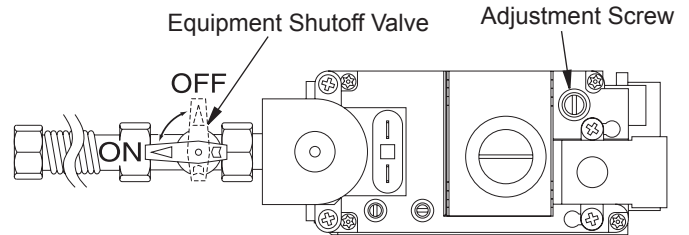

Figure 48 - Turning Equipment Shutoff Valve to the OFF Position
5. Turn equipment shutoff valve clockwise  to the OFF position (see Figure 48). Do not force.
6. Wait five (5) minutes to clear out any gas. Then smell for gas, including near the floor. If you smell gas, STOP! Follow "B" in the safety information above. If you don't smell gas, go to the next step.
- Turn the adjustment screw marked PILOT clockwise to decrease or counterclockwise to increase the flame to proper size (see Figure 48, page 23). Do not remove the adjustment screw.